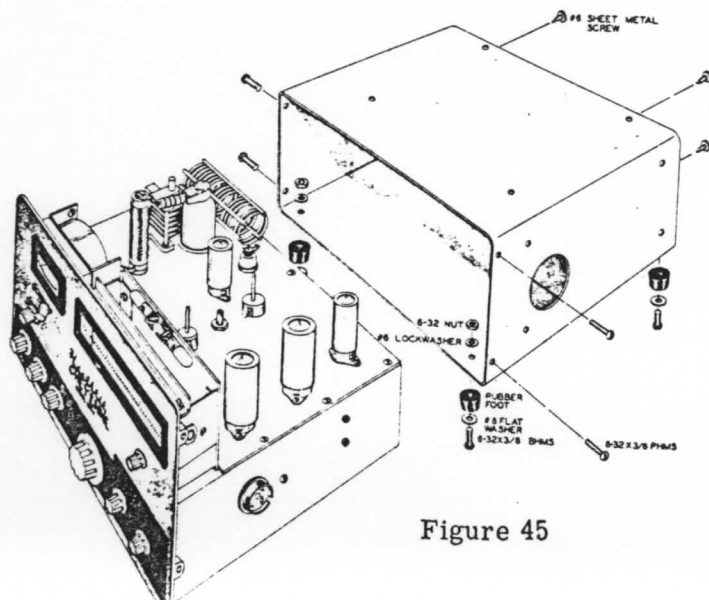

Figure 45
- () Mount the four rubber feet in the bottom of the cabinet using 6-32 x 3/8" BHMS, #6 lockwashers and nuts. Use a #8 small flat washer under the screw head. Refer to Figure 45.